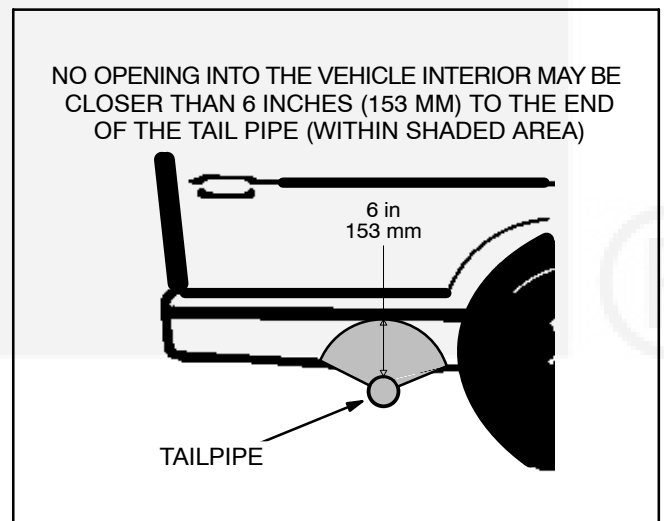

FIGURE 2-6. MINIMUM DISTANCES TO OPENINGS
9. Do not terminate the tailpipe such that it is closer than 6 inches (153 mm) to any opening into the vehicle interior (door, window, vent). See Figure 2-6.